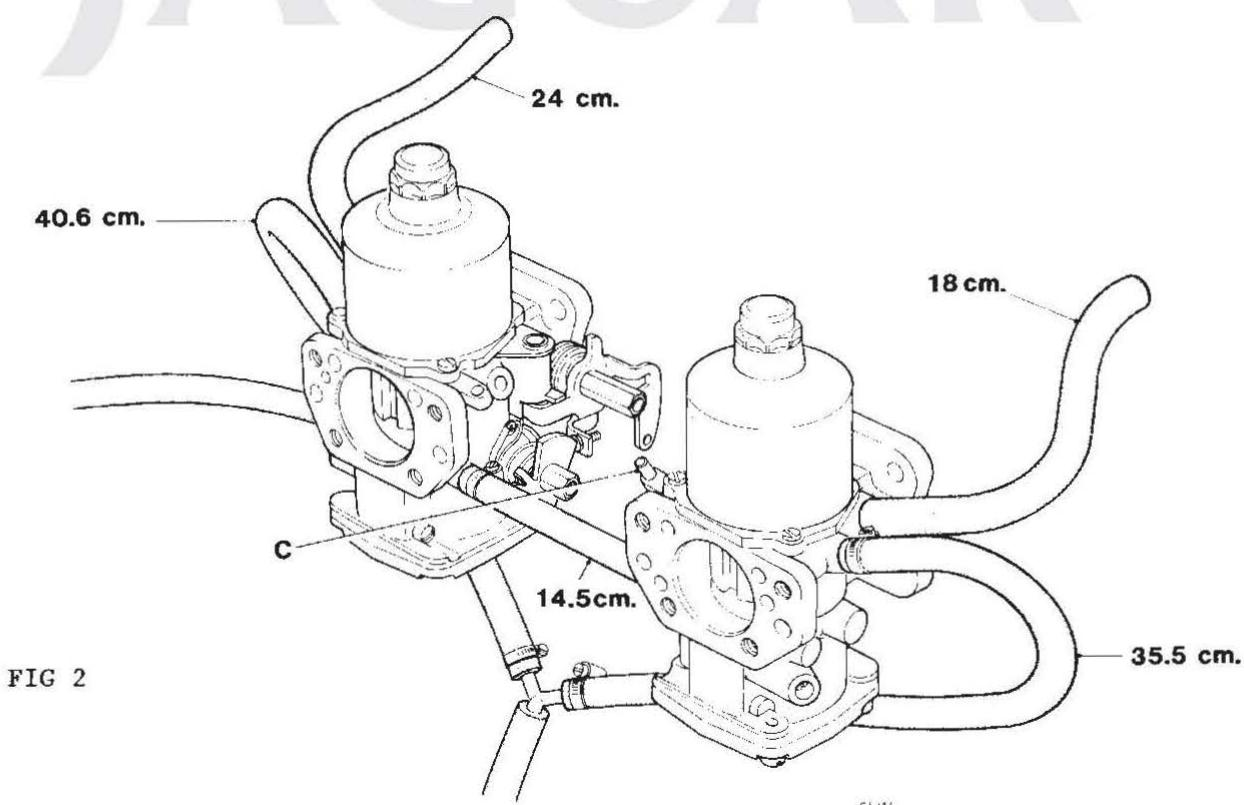

FIG 2
2. Cut the hoses to length, fit and secure to the carburetor using the 'Y' piece from the displaced assembly (Fig. 2), ensuring that they do not and can not foul the operating cams.
3. Locate the choke cable through the ferrule in the front carburettor (C Fig 2) and through the solderless nipple (which must be located in the lower hole in the choke operating cam). Ensure that the choke cable is in the fully closed position before tightening the securing screw.